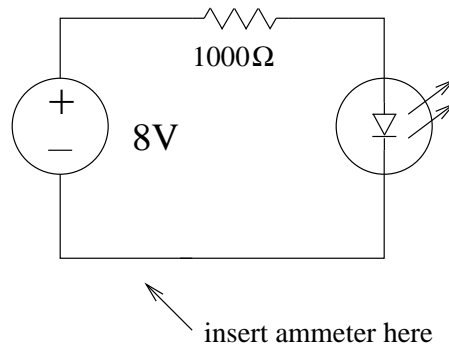

Figure 11: Series resistive circuit with LED
- Now construct the circuits of Figures 11 and 12. Remember the "one way street" principle, and apply it to decide how to place your LED.